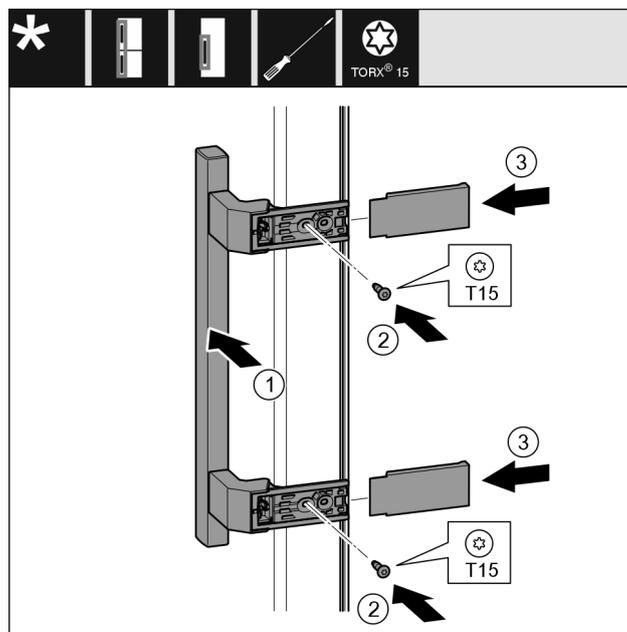

Fig. 47
- ▶ Place the handle Fig. 47 (1) on the opposite side.
- ▶ Tighten screws Fig. 47 (2) with screwdriver.
- ▶ Place the covers Fig. 47 (3) on the side and push them on.